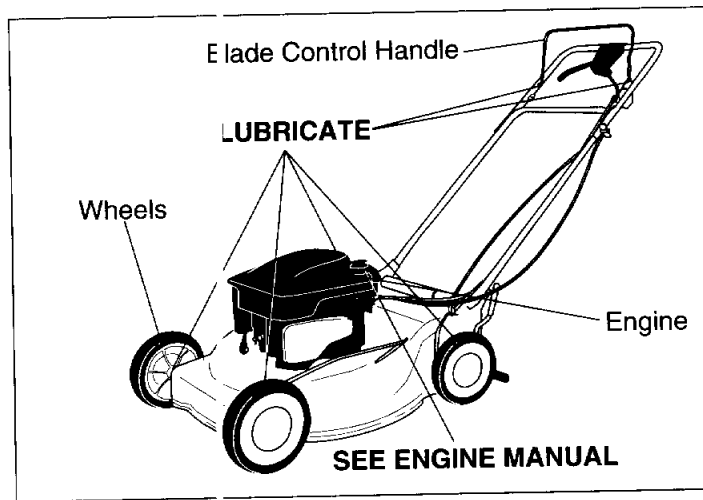

Figure 10
**Blade Control:** Lubricate the pivot points on the blade control handle and the brake cable at least once a season with light oil. See Figure 10. The blade control must operate freely in both directions.
**Wheels:** Lubricate the wheel at least once a season with light oil (or engine oil). Also, if the wheels are removed for any reason, lubricate the surface of the axle bolt and the inner surface of the wheel with light oil. See Figure 10.